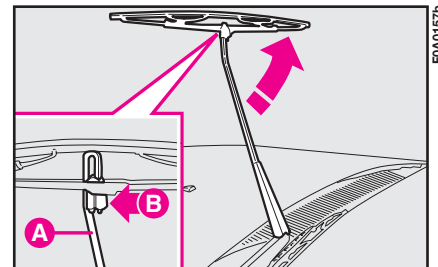

fig. 23
1) Lift the windscreen wiper arm **A** fig. 23 off the glass and position the blade so as to form a right angle with the arm.